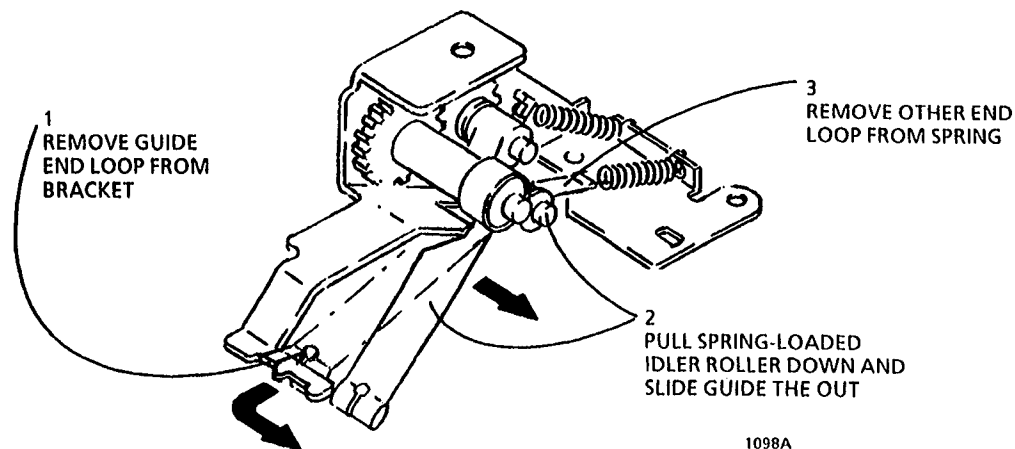

Figure 2. Removing the Stripper Guide
4. (Figure 2): If necessary, remove the Stripper Guide from the Stripper Assembly.